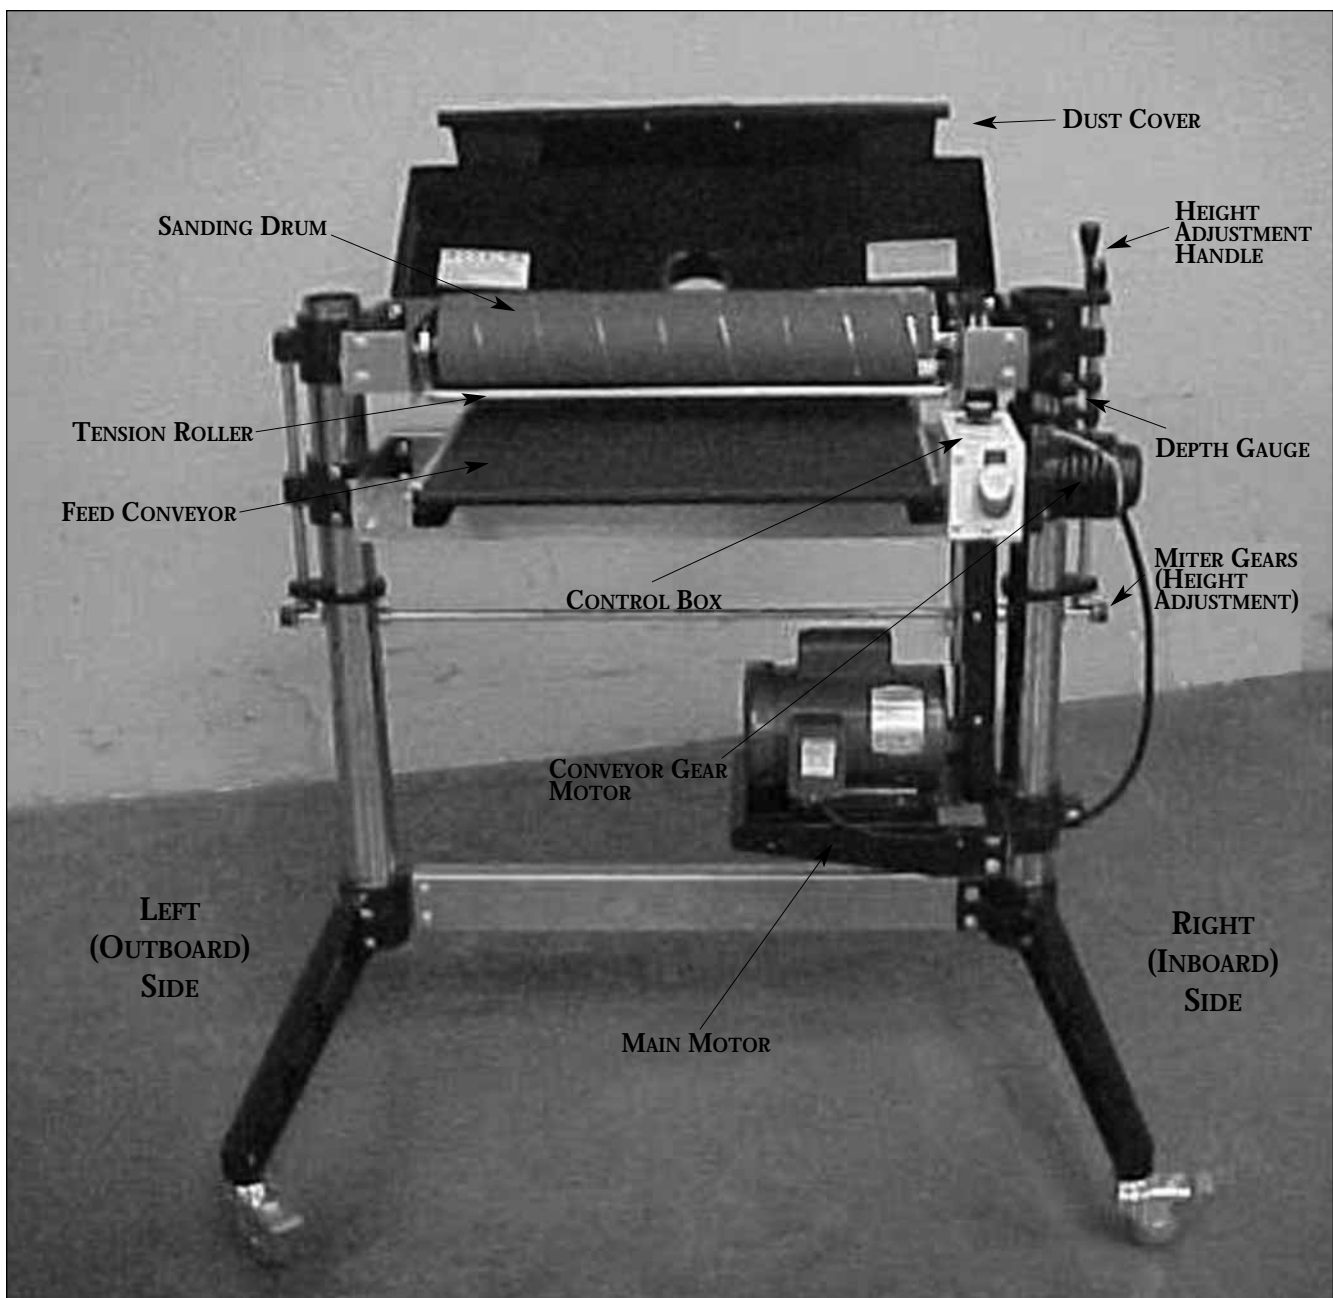

Fig. 1. SHOPPRO 25 nomenclature.
1) precision machined revolving drum wrapped with abrasive strips held by a 2) patented take-up mechanism to process stock fed by the 3) no-give conveyor table which is adjusted by 4) an infinitely variable power feed motor and a 5) convenient height adjustment mechanism. The illustration below (Fig. 1) shows the major components.